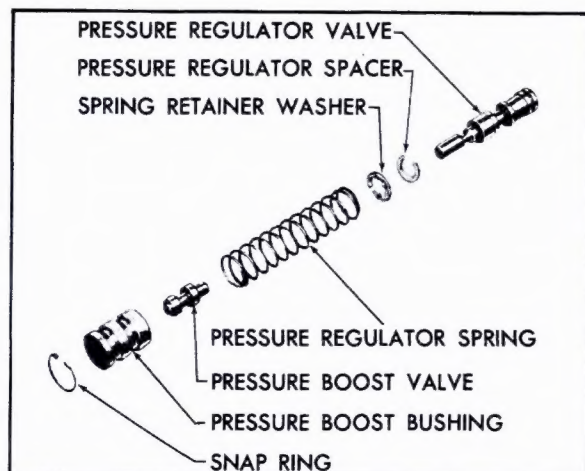

Fig. 7-224 Pressure Regulator Valve Disassembled
a. Install spring retainer on pressure regulator spring. Also install spacers if previously removed, Fig. 7-224.